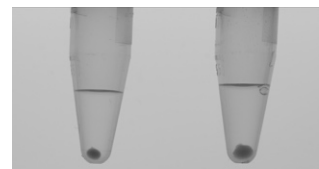

Fig. 1: recommended pellet sizes
- o Use 50 - 200 µL to reach a pellet size of app. 2 mm in diameter after centrifugation (see fig. 1). Proceed to step 2.
3. Control the pellet sizes, which is the cell material, of your samples. The pellet size should not exceed 2 mm in diameter (see fig. 1).